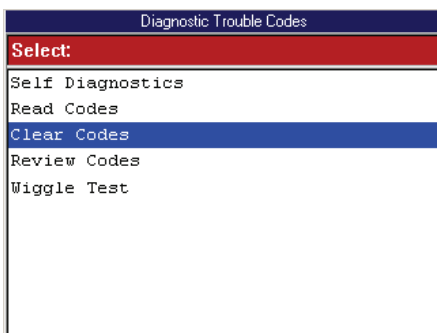

Figure 6.32: Diagnostic Trouble Codes Menu Screen
- If the Diagnostic Trouble Codes menu screen appears (Figure 6.32), go to step 3.